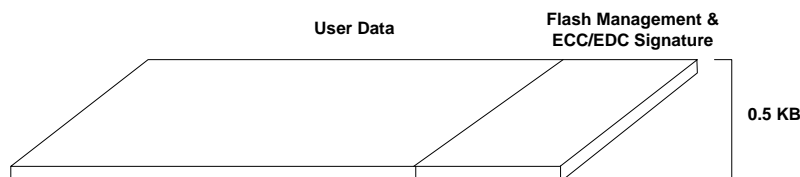

Figure 6: Page Structure
- **Page** – Each page contains 512 bytes of user data and a 16-byte extra area that is used to store flash management and EDC/ECC signature data, as shown in Figure 6. A page is the minimal unit for read/write operations.